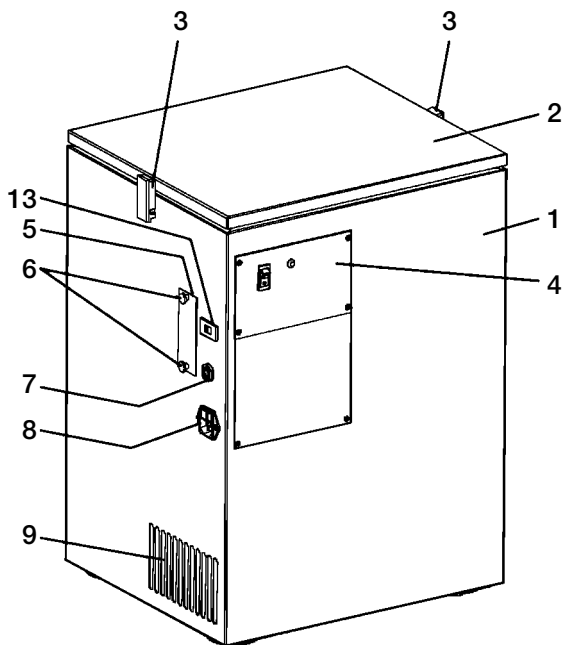
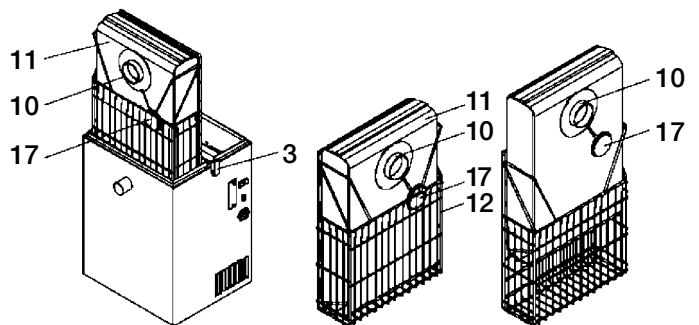
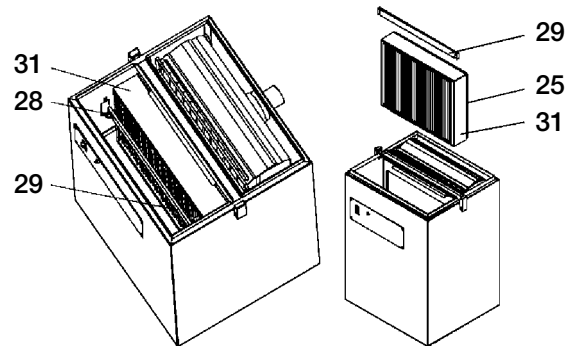

Fig. 1: View from front left
Fig. 4: Removing the filter bag
Fig. 6: Changing the ultra-fine filter
(see Figs. 1 and 2 on page 6)
(see Fig. 6 on page 9)
2. To tap the filter bag (11), open the two clamp locks (3) and remove the cover (2) (see Figs. 1 and 2 on page 4).
(see Figs. 1 and 2 on page 6 and Fig. 4 on page 8)
(see Fig. 1 on page 6 and Figs. 6 and 7 on page 9 and 10)
(see Figs. 1 and 2 on page 6 and Fig. 6 on page 9)